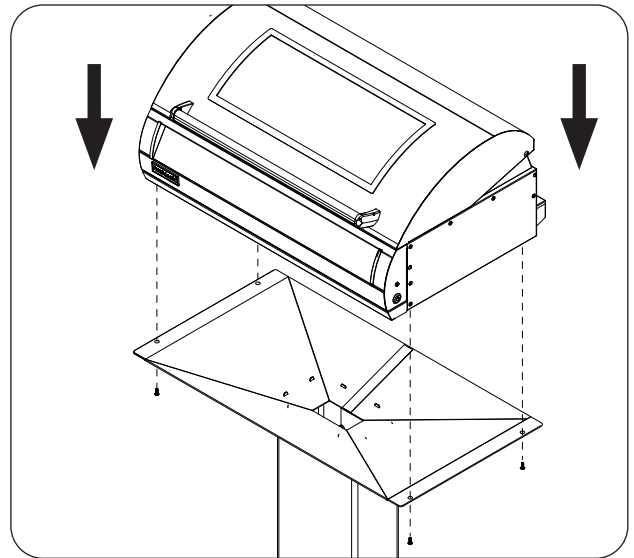

Fig. 25-1 Fasten grill to post base assembly
2. Carefully place and align the electric grill onto the top of the post assembly. Fasten the electric grill to the post base assembly using the 4 included Phillips-head screws. See Fig. 25-1.